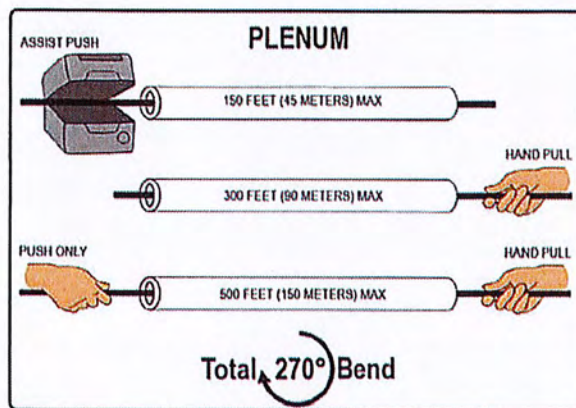

Figure 2
- The images (Figures 2) show the recommended maximum distances for pulling fibers. Following these best practices have allowed longer pull distances.